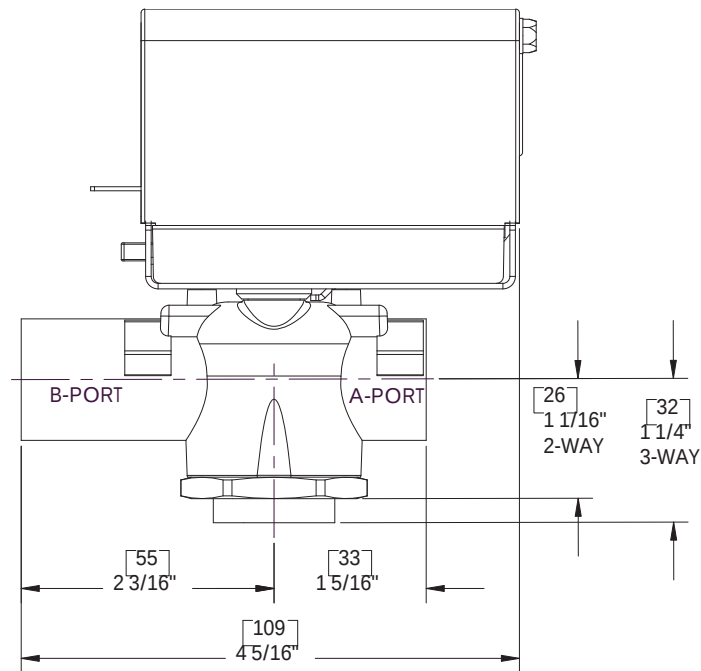

Figure-11 Inverted Flare - General Close-Off Style Actuator Shown
| Inverted Flare  | See Figure-11 |            |              | 4-3/16 (106)          | 4-7/16 (113)       |